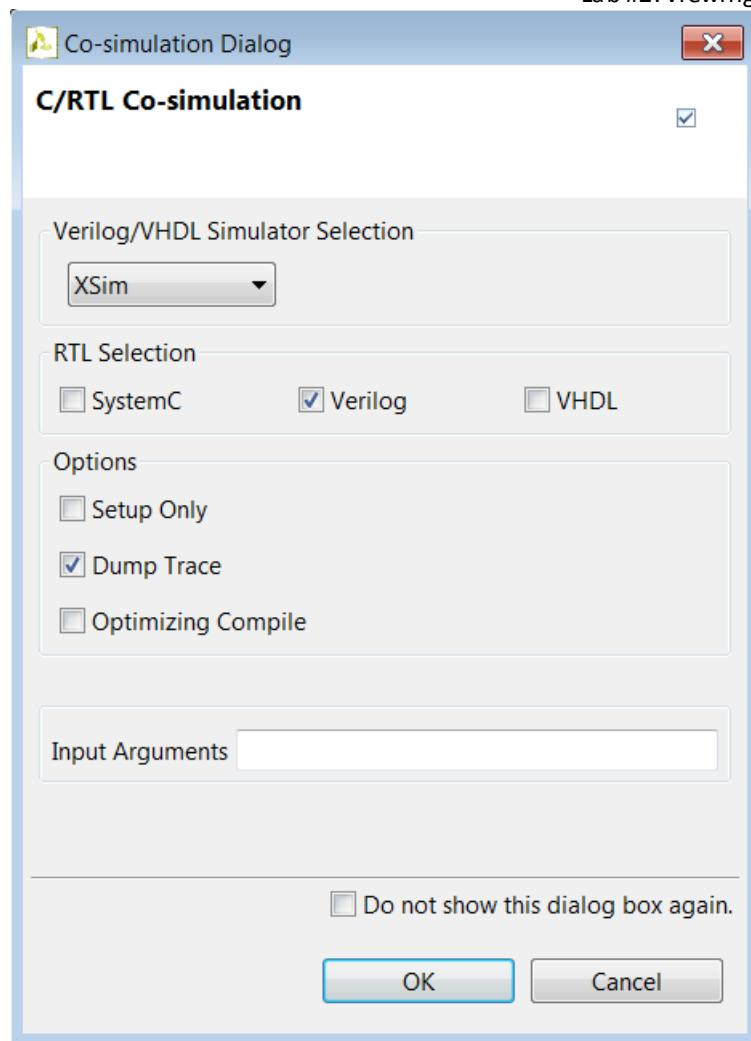

Figure 176 Cosimulation Dialog Box For Lab #2
- a. Select Xsim from the Verilog/VHDL Simulator Selector (Figure 176).
- d. Select the Dump Trace option, to have the options shown in Figure 176.